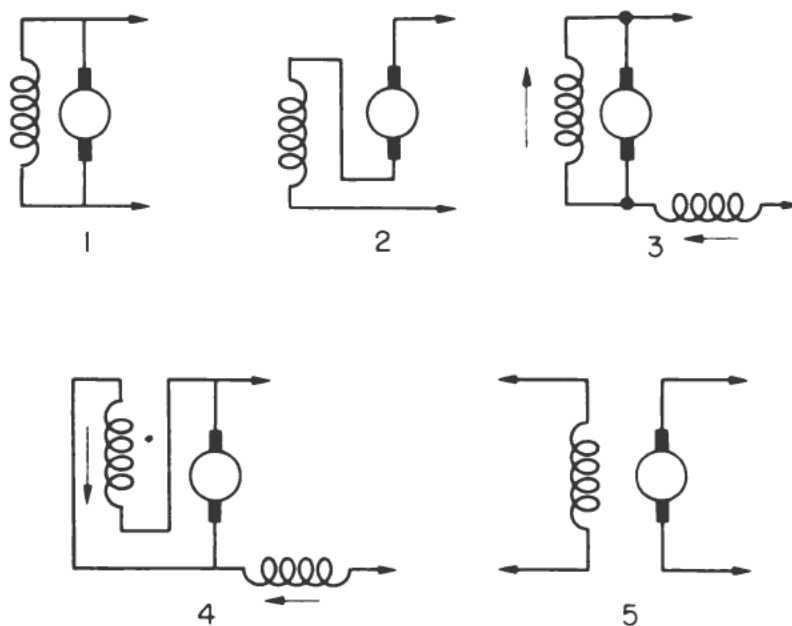

Figure 29.—Generator connections.
And—there are five ways of connecting generators, shown in figure 29—
The **SHUNT** connection—the armature and field are in parallel. This is the generator with the drooping voltage curve, figure 29 (1).
The series connection—the armature and field are in series. This is the generator with the rising voltage curve, figure 29 (2).
The **CUMULATIVE COMPOUND** connection—the armature is connected to two field windings, one in series and one in parallel, figure 29 (3). The windings carry current in the same direction and thus help each other produce the flux field. This generator can have a rising, a drooping, or a level-voltage curve.
The **DIFFERENTIAL COMPOUND** connection—the armature is connected to two field windings, one in series and one in parallel. But the two windings carry current in opposite directions, figure 29 (4). They oppose each other and produce a weaker field. This is the generator with a full drooping voltage curve.
The **SEPARATELY-EXCITED** connection—the armature has no connection with its own field, figure 29 (5). This generator may have any kind of a voltage curve depending on the field adjustment.